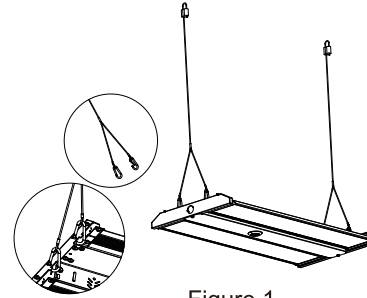

Figure 1
- Step1.Hook up the chain; (Figure 1)
- Step2.Connect the chain with fixture; (Figure 1)
- Step3. Fix the chain on the rail, adjust the chain length as per need; (Figure 1)